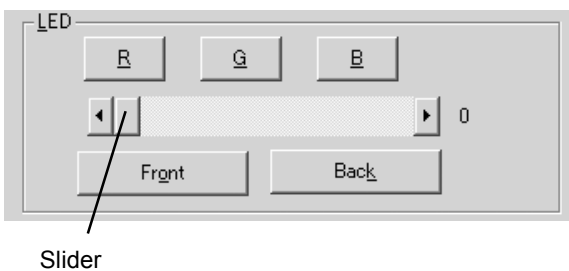

Figure 5-214
Selecting the [Front] or [Back] button of the operation screen determines the front side or the back side. Next, selecting a [LED (R/G/B)] button causes the corresponding LED to light up. However, in the case of the back side, regardless of whether it is the R, G, or B button that is selected, all colors light up. Moving the slider to the right lights up the white LED array (W) corresponding the light intensity. To put out the LED, move the slider to its leftmost position. Selecting a LED button again causes that LED to go out. Figure 5-214 shows the related part of the operation screen.